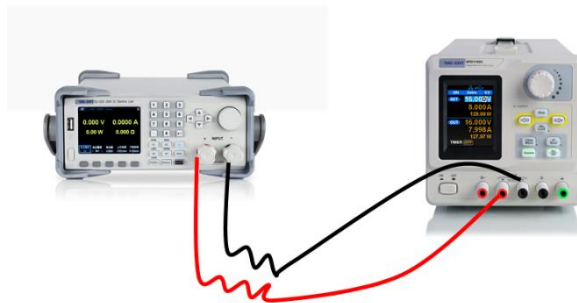

Figure 2-2
1. Turn off the instrument, as shown in Figure 2-2, connect the DUT and the channel input terminals on the front panel of the load.
Power on instruments Connect the DUT and the channel input terminals of the electronic load, as shown in Figure 2-2.